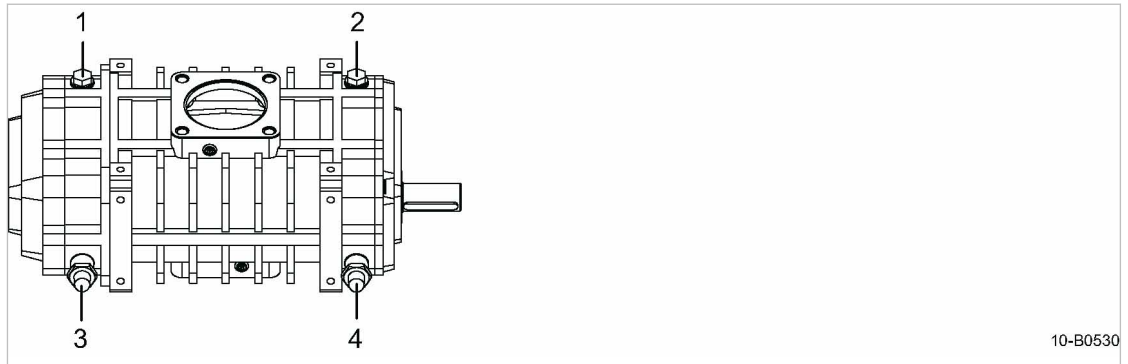

Fig. 32 Replenishing lubricating oil
2. Slowly unscrew screw plugs on the oil inlets on the blower block, positions (1) and (2) from figure 32.
3. Screw off caps (4), secure against reclosing and ensure that the oil can flow freely.
4. Open oil drain taps (3) and let oil drain out.
3. Close oil drain taps (3).
4. Check the oil level using the oil sight glasses on the gear and drive-end (see figure 32) and fill if necessary.
5. Screw on caps (4).